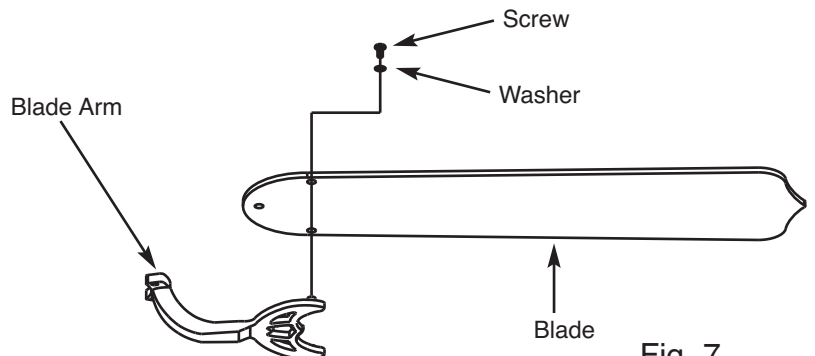

Fig. 7
- ❖ Attach each fan blade to a blade arm with three 3/16" x 7.5 mm blade screws and three 3/16" fiber washers (see figure 7). DO NOT OVER TIGHEN THESE SCREWS.